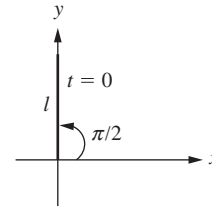

Figure P6.4 Rotating one-link robot starting at $\theta = 90^\circ$.
- 6-4.** The tip of a one-link robot is located at $\theta = \pi/2$ rad at $t = 0$ s as shown in Fig. P6.4. It takes 4 s for the robot to move from $\theta = \pi/2$ rad to $\theta = \pi/2 + 2\pi$ rad. If $l = 10$ cm, plot the x - and y -components as a function of time. Also find the amplitude, frequency, period, phase angle, and time shift.